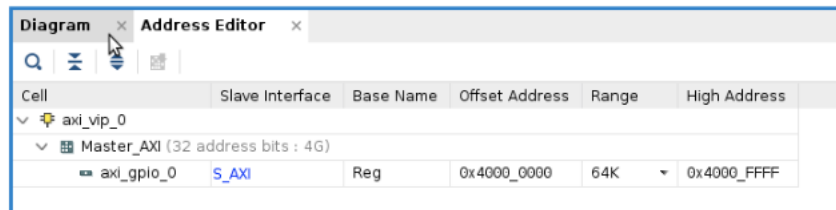

Figure 5: Address Editor
- Go the **address editor** tab and set the offset address to **0x40000000** (see Figure 5). If the GPIO Core (*axi_gpio_0*) is *unmapped*, click and drag the entire row into **MASTER_AXI** to map it.